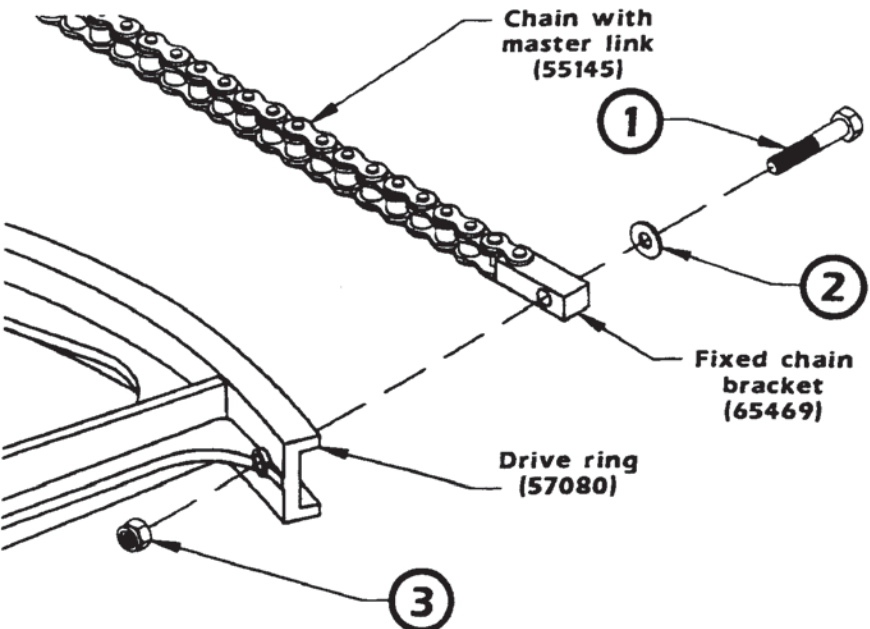

FIG. 8
1. Attach the fixed chain bracket (while connected to the chain) to the left side of the drive ring (side with no tab) using one $\frac{5}{16}$ " x $1\frac{3}{4}$ " bolt, one $\frac{1}{4}$ " USS flatwasher, and one $\frac{5}{16}$ " nyloc nut. Tighten. (See Fig. 8)